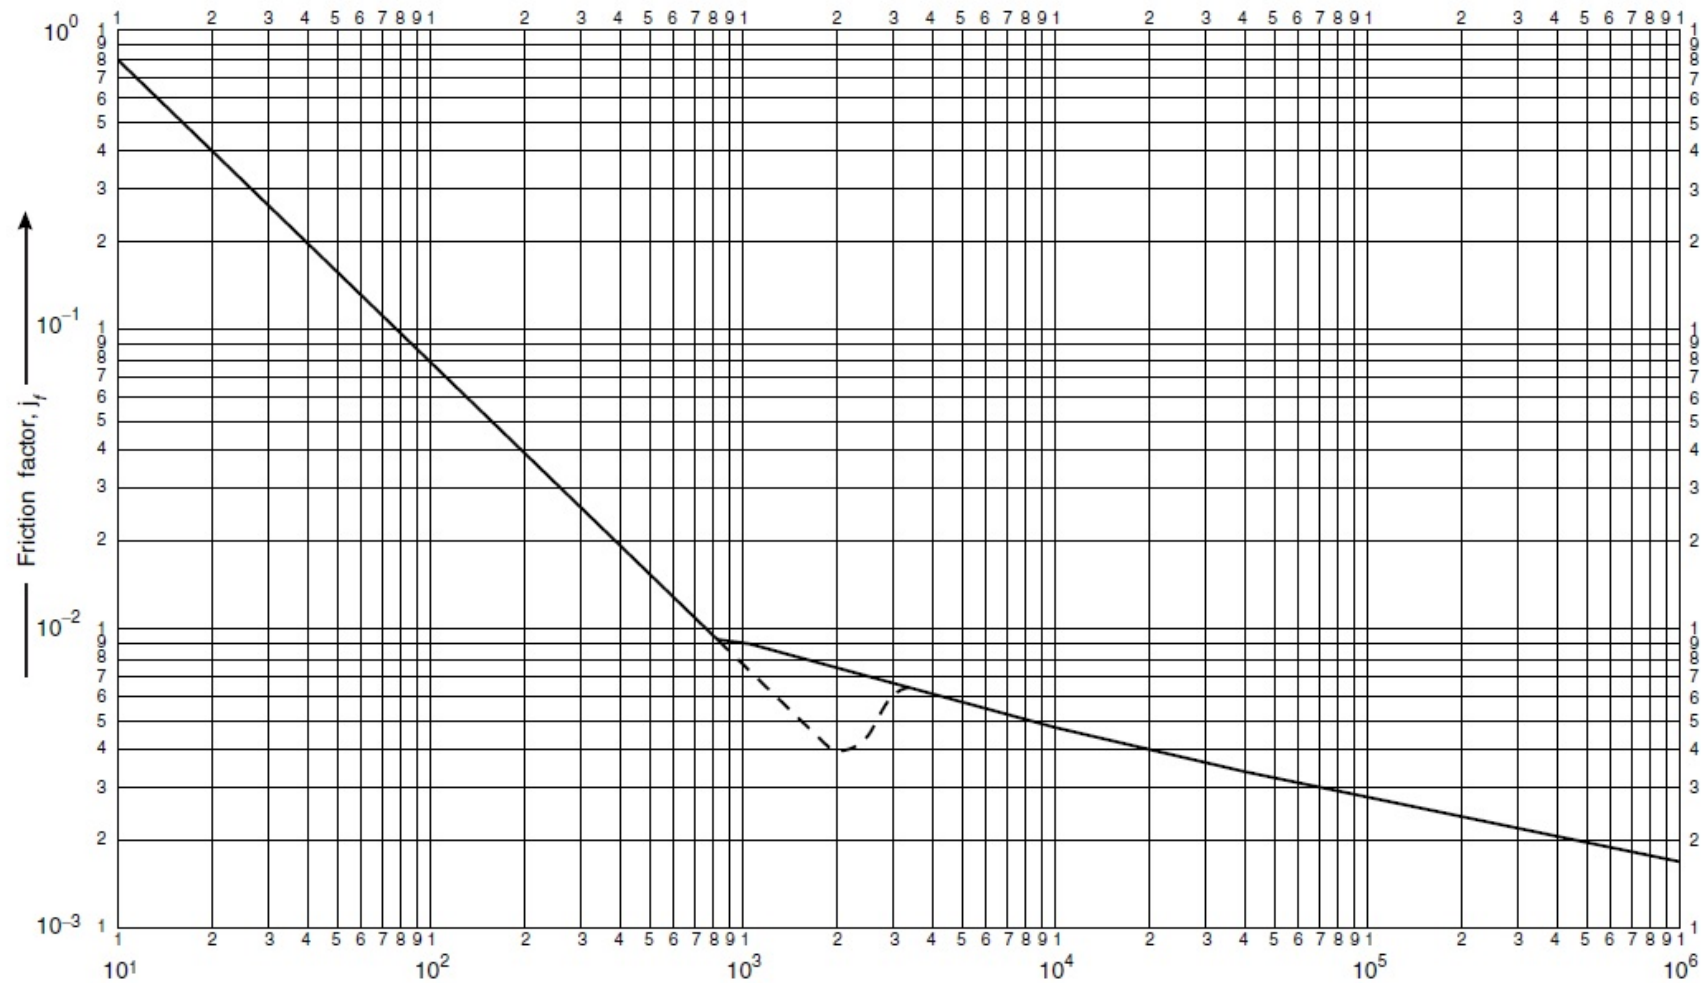

Fig. 10: Tube-side friction factors
- **Tube side:** From Fig. 10, for $Re = 14925$